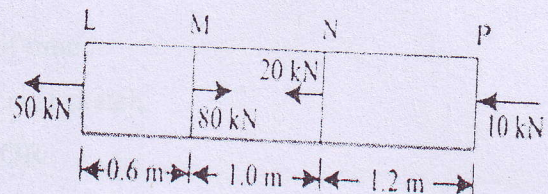

Figure: 2 Q: 4(A)
Q.4 A A brass bar having a cross sectional area of 1000 mm² is subjected to axial forces as shown in figure 2. Find the total change in length of the bar. Take $E = 105$ GPa (05)